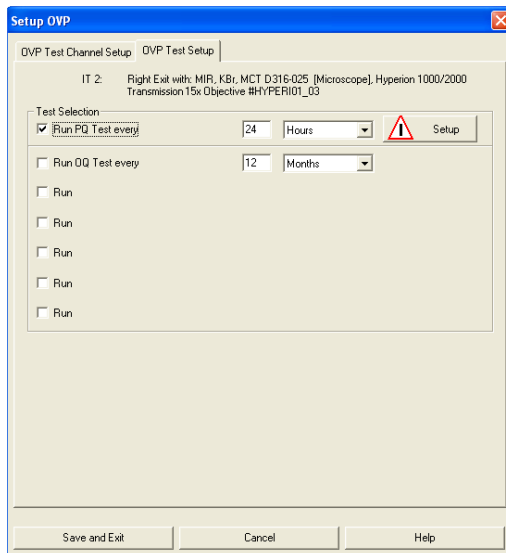

Figure 9: Specifying the Validity Period for the PQ Test
- Activate the *Run PQ Test every* check box and specify the validity period for the PQ test (i.e. when the specified validity period is over the PQ test needs to be repeated). See figure 9.
In case you work with a validated system, specify the validity period for the OQ test (i.e. when the specified validity period is over the OQ test needs to be repeated). See figure 9. It is recommended to use the default setting (12 month).